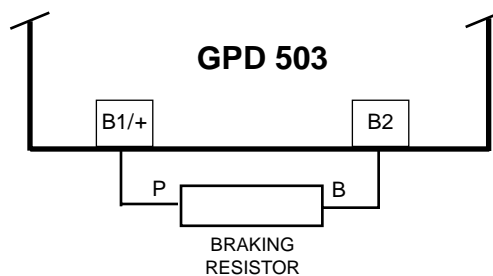

Figure A7-2. Lead Connections For Braking Resistor (Heat Sink Mounted)
4. Connect the Braking Resistor's leads to drive terminals according to Figure A7-2.